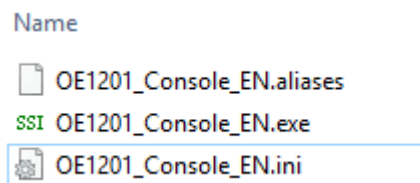

Fig.32 “OE1201_Console”File folder
2) Double click the file “OE1201_Console_EN.exe” in Fig. 32.